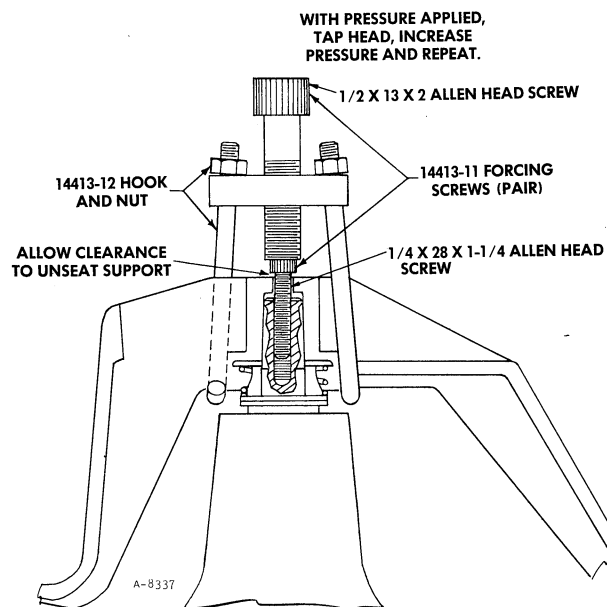

Figure 45
4. Install the tub support puller tool 14413 and pull the tub support off of the tub support shaft taper. See Figure 45.